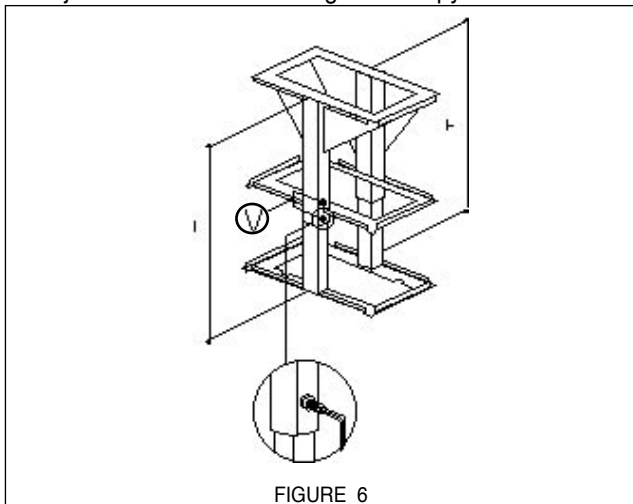

FIGURE 6
6. Attach the support to the ceiling. Make sure that the support is firmly connected to the ceiling. The height of the canopy can be adjusted by changing the length of the support. Adjust the support length by loosening the four set screws (V) indicated in FIGURE 6. The bottom of the canopy will be approximately 10 1/4 inches below the bottom of the support. Make sure that all four set screws are firmly tightened before attaching the canopy. To prevent damage, the support must be adjusted BEFORE attaching the canopy.